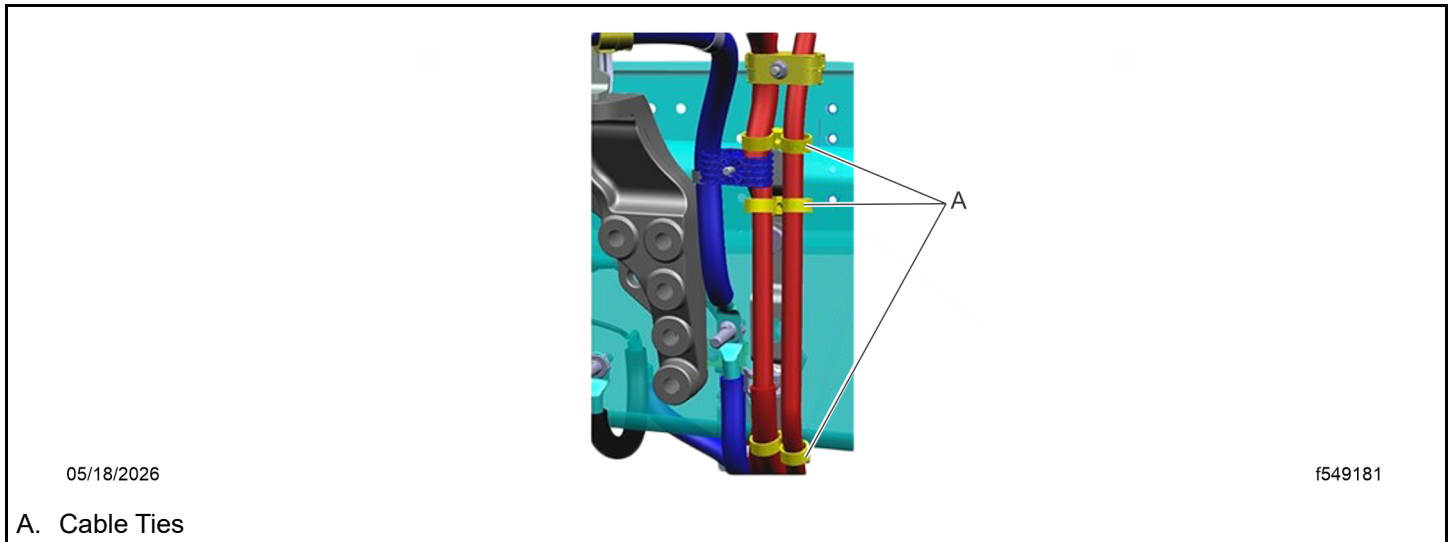

Fig 57, Butterfly Cable Tie Locations
36. Secure the cables to the 5/8-inch (16-mm) tie block with a Heavy Duty (HD) cable tie (23-13476-000) and other points where positive power cables are routed together.
37. Use butterfly cable ties (TYCDCT110HIR) to secure the auxiliary BCA cable to the starter cable at three points (A) to prevent the cable from rubbing on nearby items. See Fig. Fig. 57.